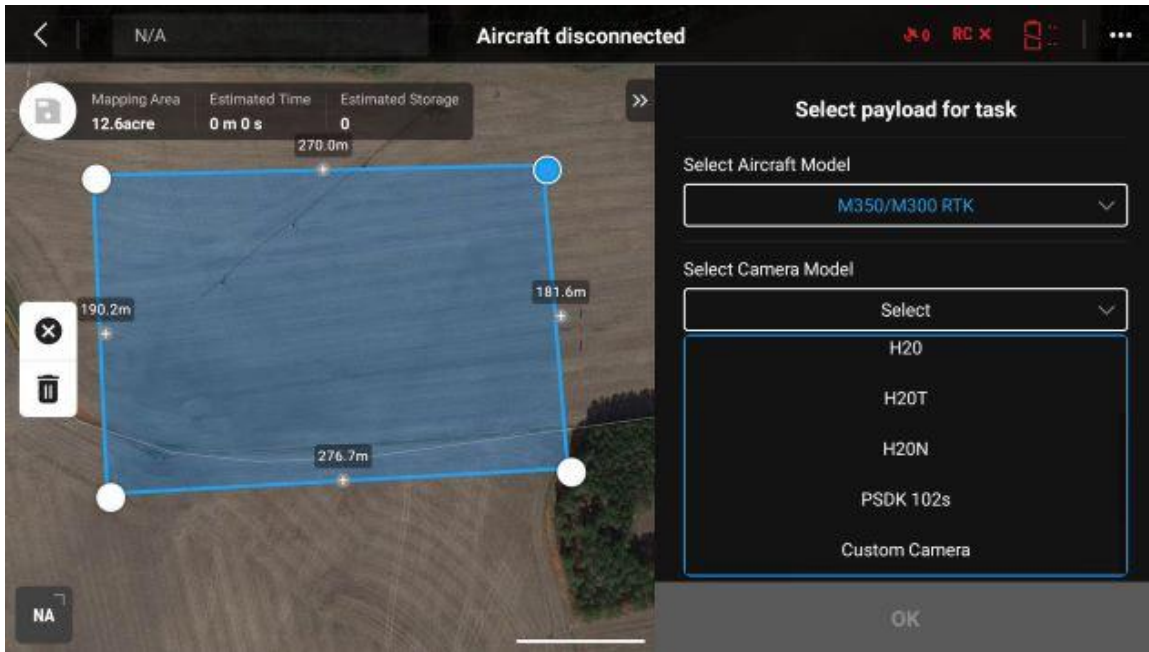

Figure 35: Pilot 2 payload task
- Q Ground Control likes to establish a takeoff point. To do so, select “Takeoff” on the left menu (Figure 35) and drag the takeoff icon in your map view to the area you plan on taking off from. This does not have to be exact. Once the takeoff waypoint is placed, select “Done”.
10. Input your polygon in which your mission will be flown, then choose the M350/M300 RTK option as the Aircraft Model. (Figure 35)